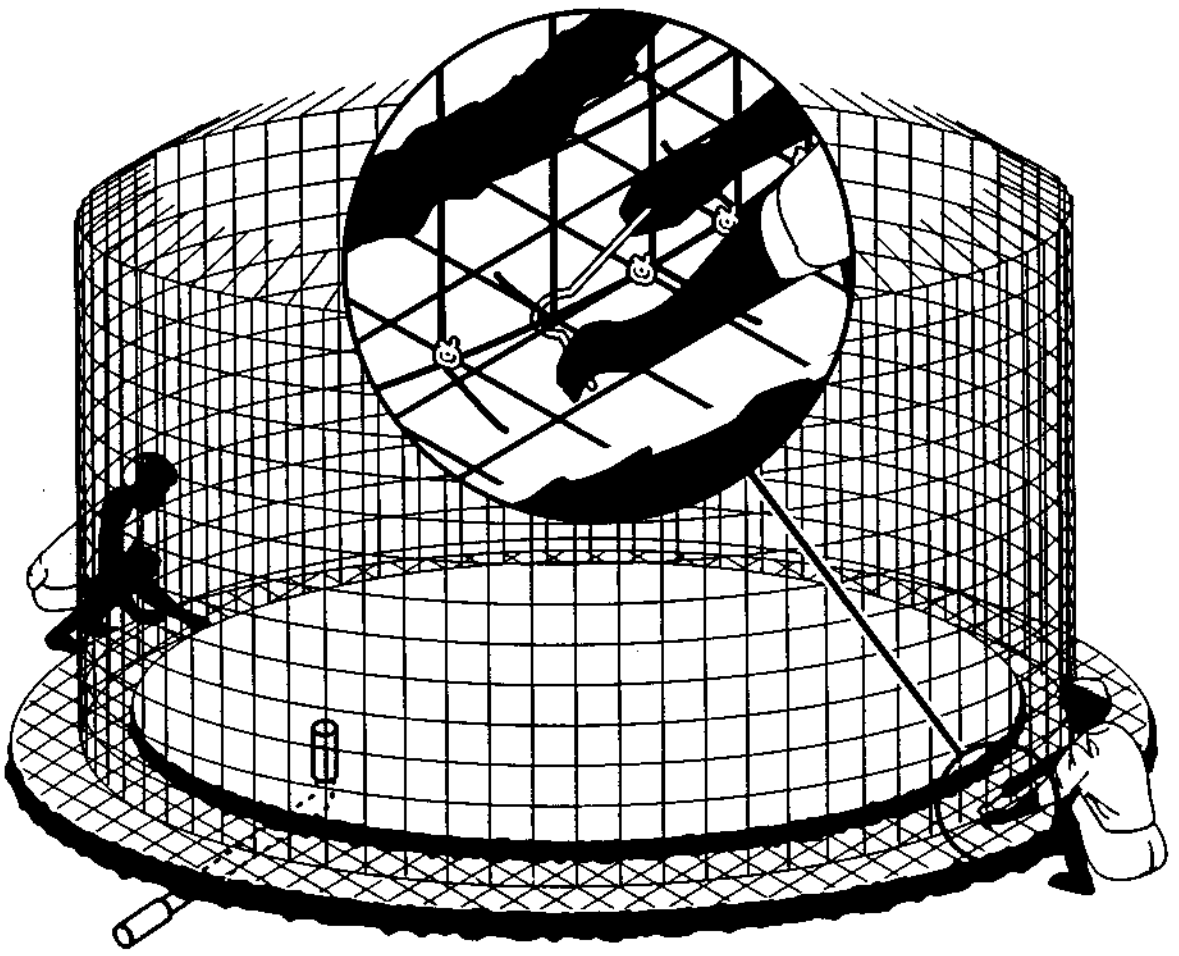

Figure 11.10 Foundation and wall preparation
### Day 1 Refer to Figure 11.10.
- Position any outlet or drain pipe in a narrow trench in the earth foundation under the floor and protruding through it as shown in Figure 11.10. Backfill the trench with concrete.